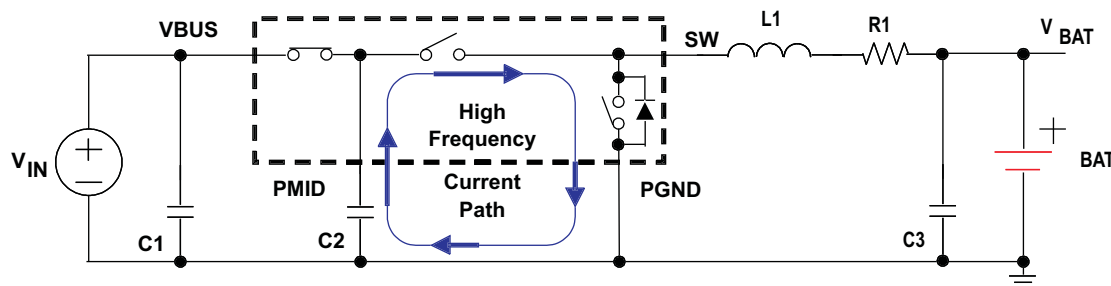
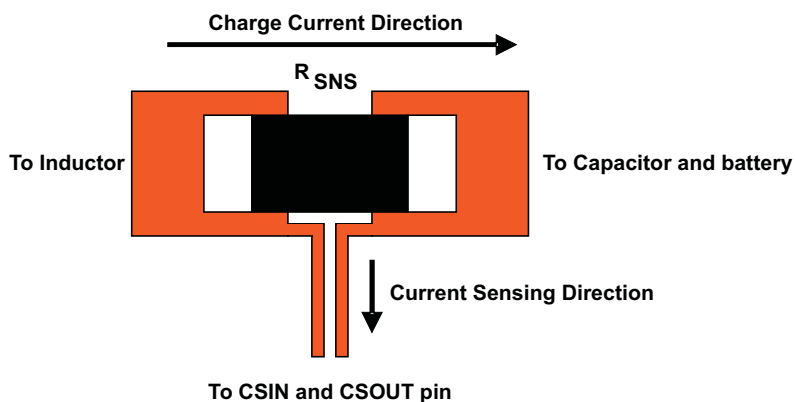

Figure 39. High Frequency Current Path
Figure 40. Sensing Resistor PCB Layout
- To obtain optimal performance, the power input capacitors, connected from input to PGND, should be placed as close as possible to the pin. The output inductor should be placed close to the IC and the output capacitor connected between the inductor and PGND of the IC. The intent is to minimize the current path loop area from the SW pin through the LC filter and back to the PGND pin. To prevent high frequency oscillation problems, proper layout to minimize high frequency current path loop is critical. (See Figure 39.) The sense resistor should be adjacent to the junction of the inductor and output capacitor. Route the sense leads connected across the RSNS back to the IC, close to each other (minimize loop area) or on top of each other on adjacent layers (do not route the sense leads through a high-current path). (See Figure 40.)